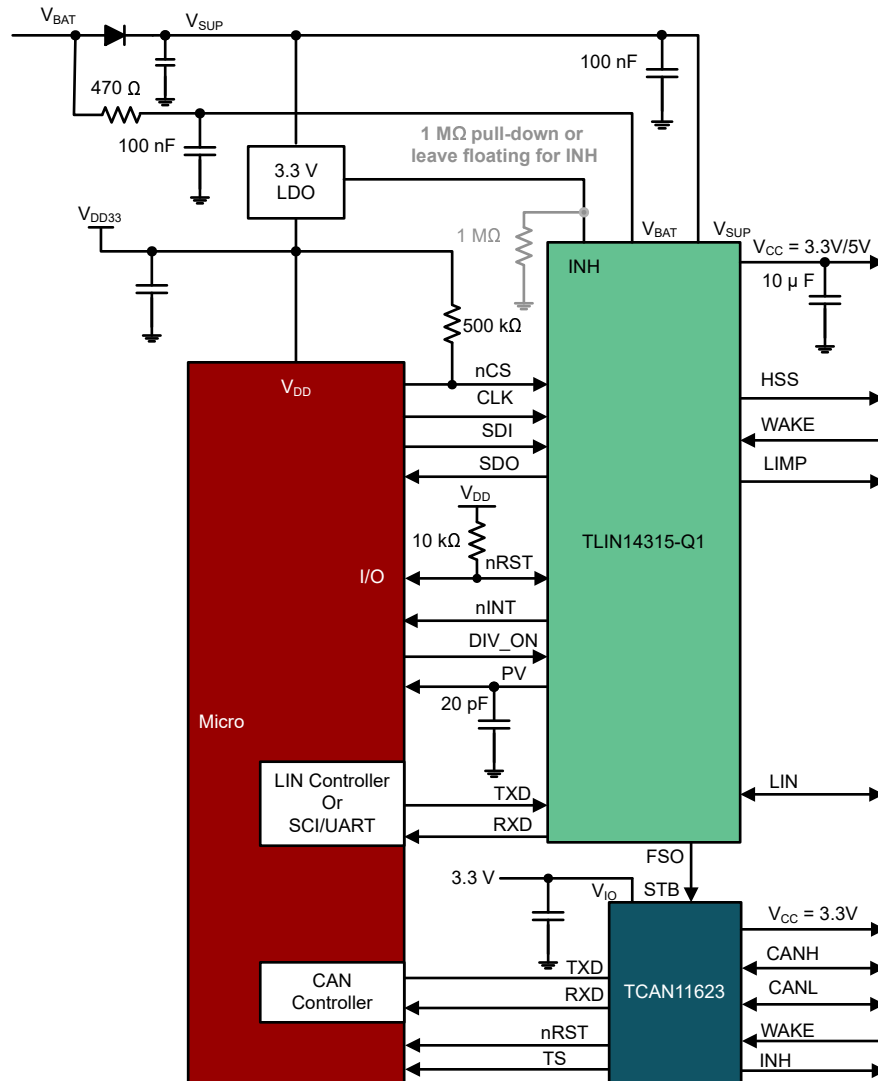

图 8-23. Channel Expansion: CAN SBC
- One LIN and one CAN FD transceiver with two LDO outputs by using a CAN FD SBC (see Figure 8-23)